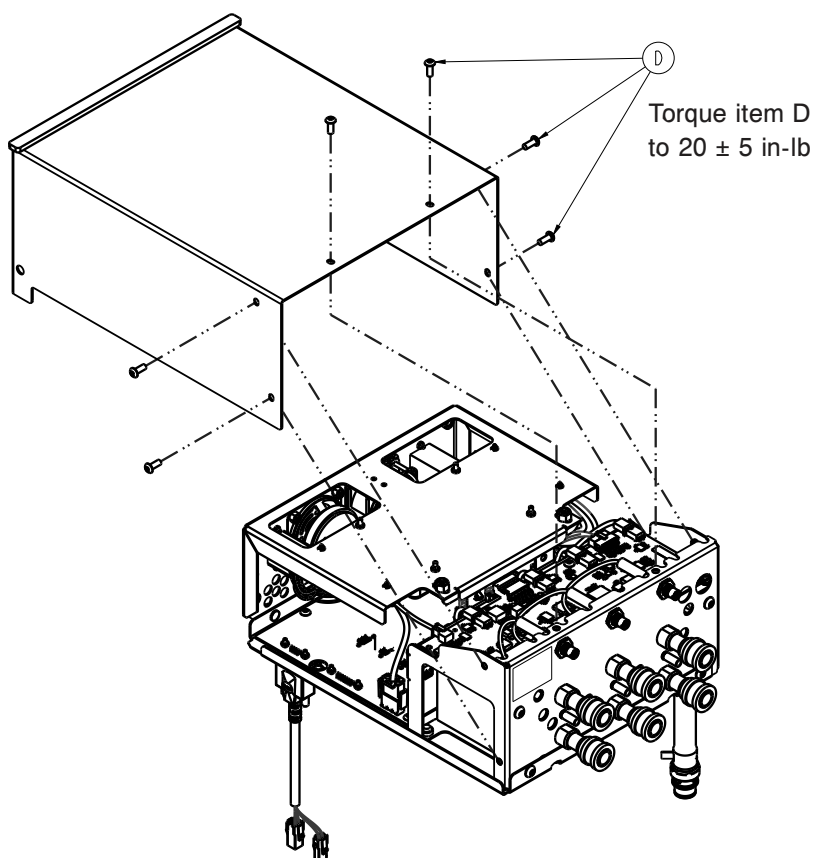

Figure 29: Control box cover
6. Using a T25 torx, remove the 6 screws (D) that secure the control box cover (Figure 29 on page 43).